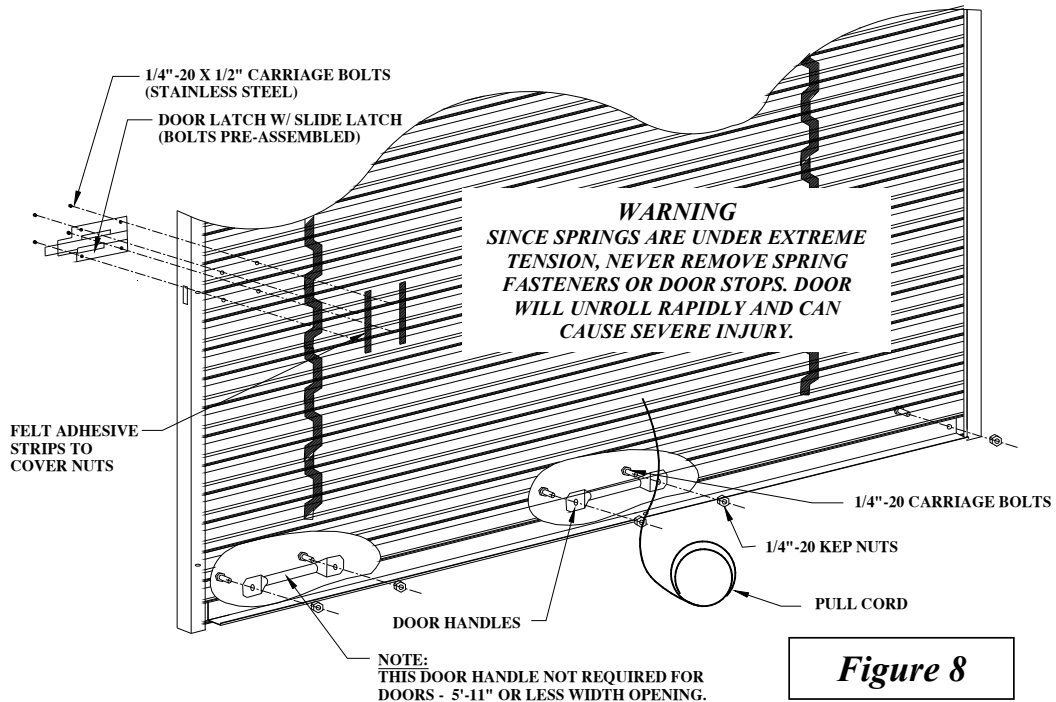

Figure 8
STEP 9. Install DOOR STIFFENER and DOOR HANDLES using 1/4" x 3/4" carriage bolts and kep nuts. (See Figure 8) Tighten DOOR STOPS with 1/4" x 3/4" carriage bolt and kep nut that was installed in STEP 3. (See Figure 7B) Install DOOR PULL CORD and DOOR LATCH ASSEMBLY. (See Figure 8)